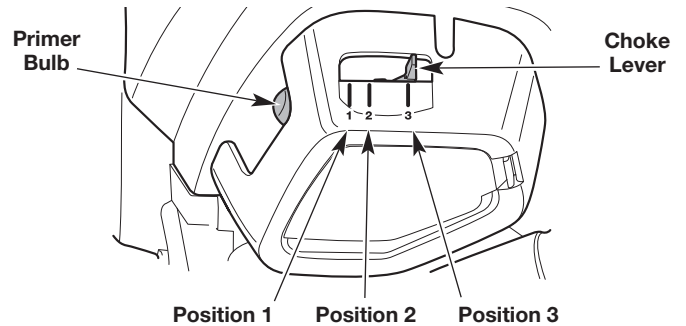

Fig. 13
3. Slowly press and release the primer bulb **10 times** (Fig. 13).
4. Move the choke lever to **Position 1** (Fig. 13).
7. Continue to press the throttle lock-out and squeeze the throttle control. Move the choke lever to **Position 2** (Fig. 13).
10. Continue to press the throttle lock-out and squeeze the throttle control. Move the choke lever to **Position 3** (Fig. 13) and continue warming the engine for an additional 60 seconds. The unit may be used during this time.